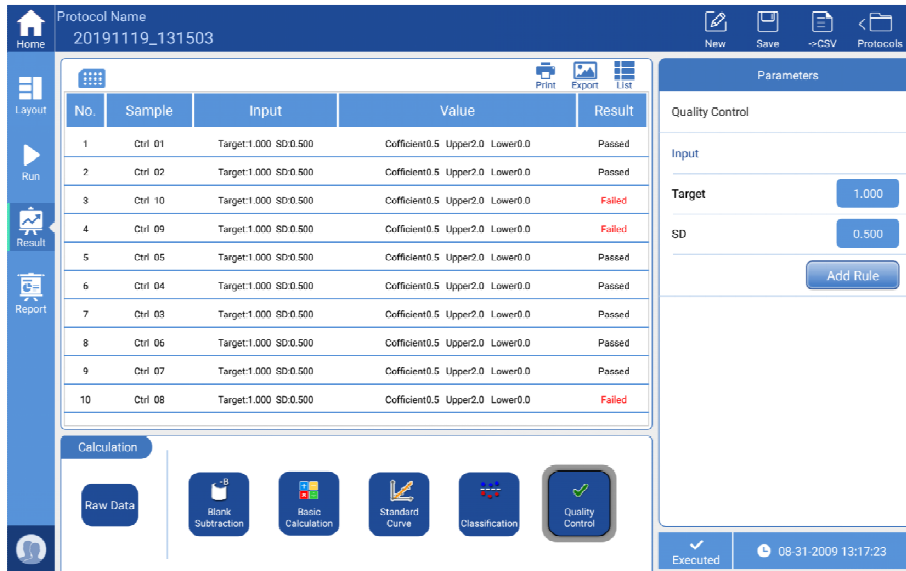

Fig 16
- Quality Control: Click “Quality Control” button, the interface will turn to Fig 16, the main display area will turn out to be a list, it displays status of the quality control well which set previously, and instrument will mark according to conditions set in “Parameters”.
Choose the well to view the kinetic curve, “Graph” button can enlarge the curve, see Fig 16, “Back” is for graphic main interface.